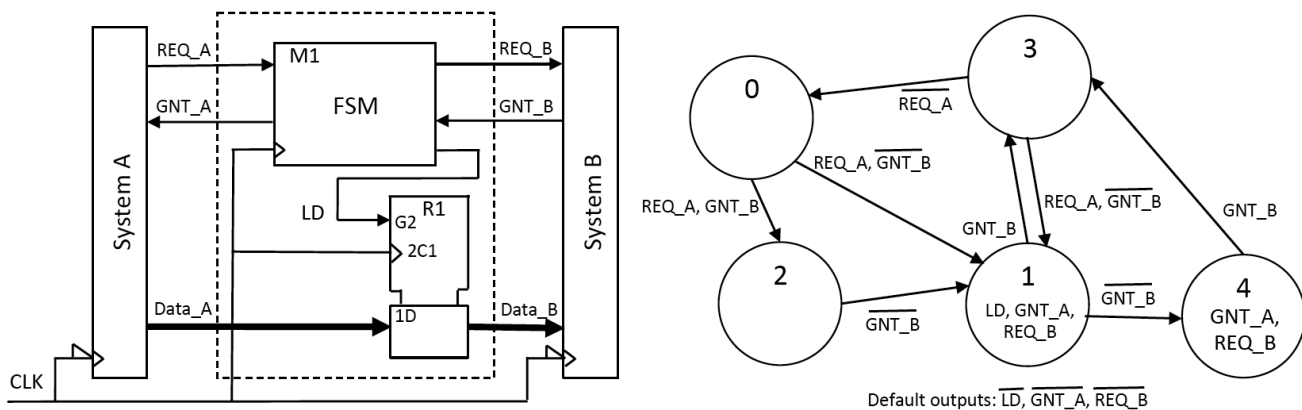

Figure 3.1
3. *Figure 3.1* shows an interface circuit to control the transfer data from System A to System B. The circuit consists of a register R1 and a finite state machine M1 whose state diagram is as shown.